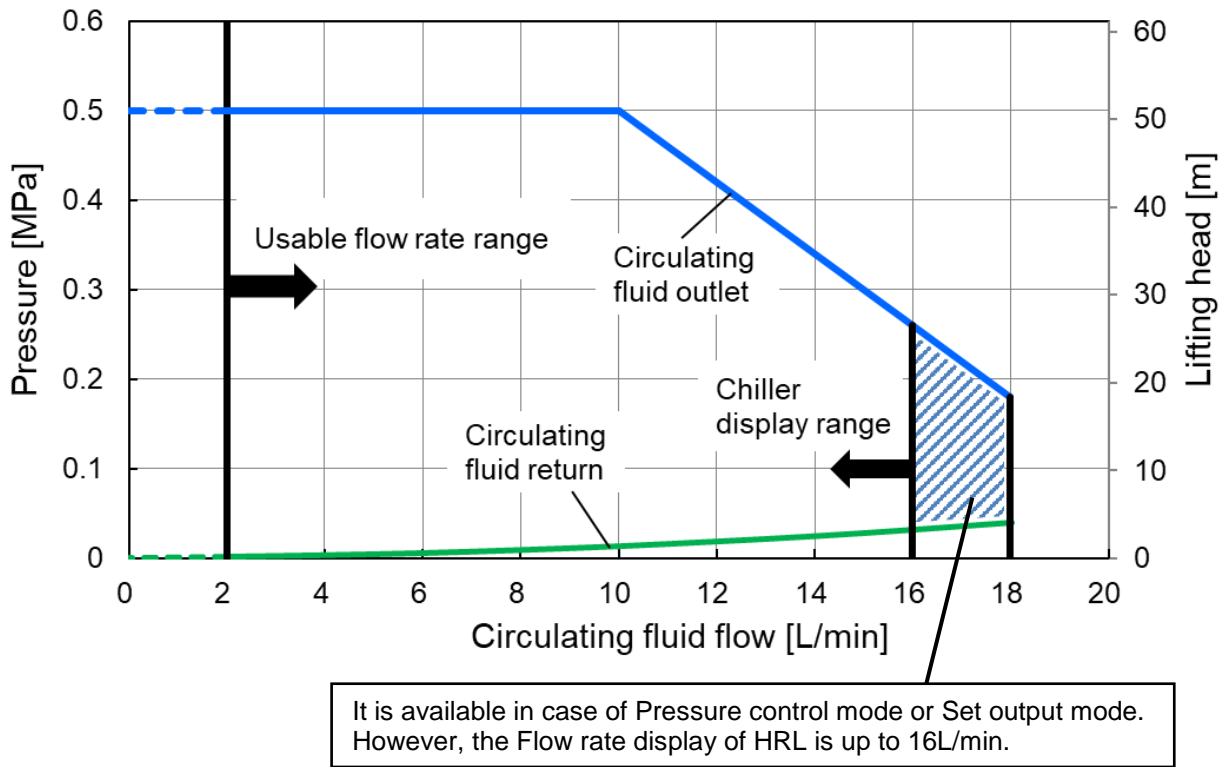

Fig. 8-12 Pump capacity(HRL100/200/300-A*-40 CH2)
- *4 (1) Facility water temperature:32°C,(2) Circulating fluid: Clean water, (3) Circulating fluid temperature: CH1 20°C /CH2 25°C,
(4) Load: Refer to the specified cooling capacity, (5) Circulating fluid flow rate: Rated flow rate, (6) Power supply: 400 VAC,
(7) Piping length: Minimum
- *12 The usable flow rate range is varied depending on the Pump control mode. Refer to Pump capacity curve (Fig.8-12) for details.